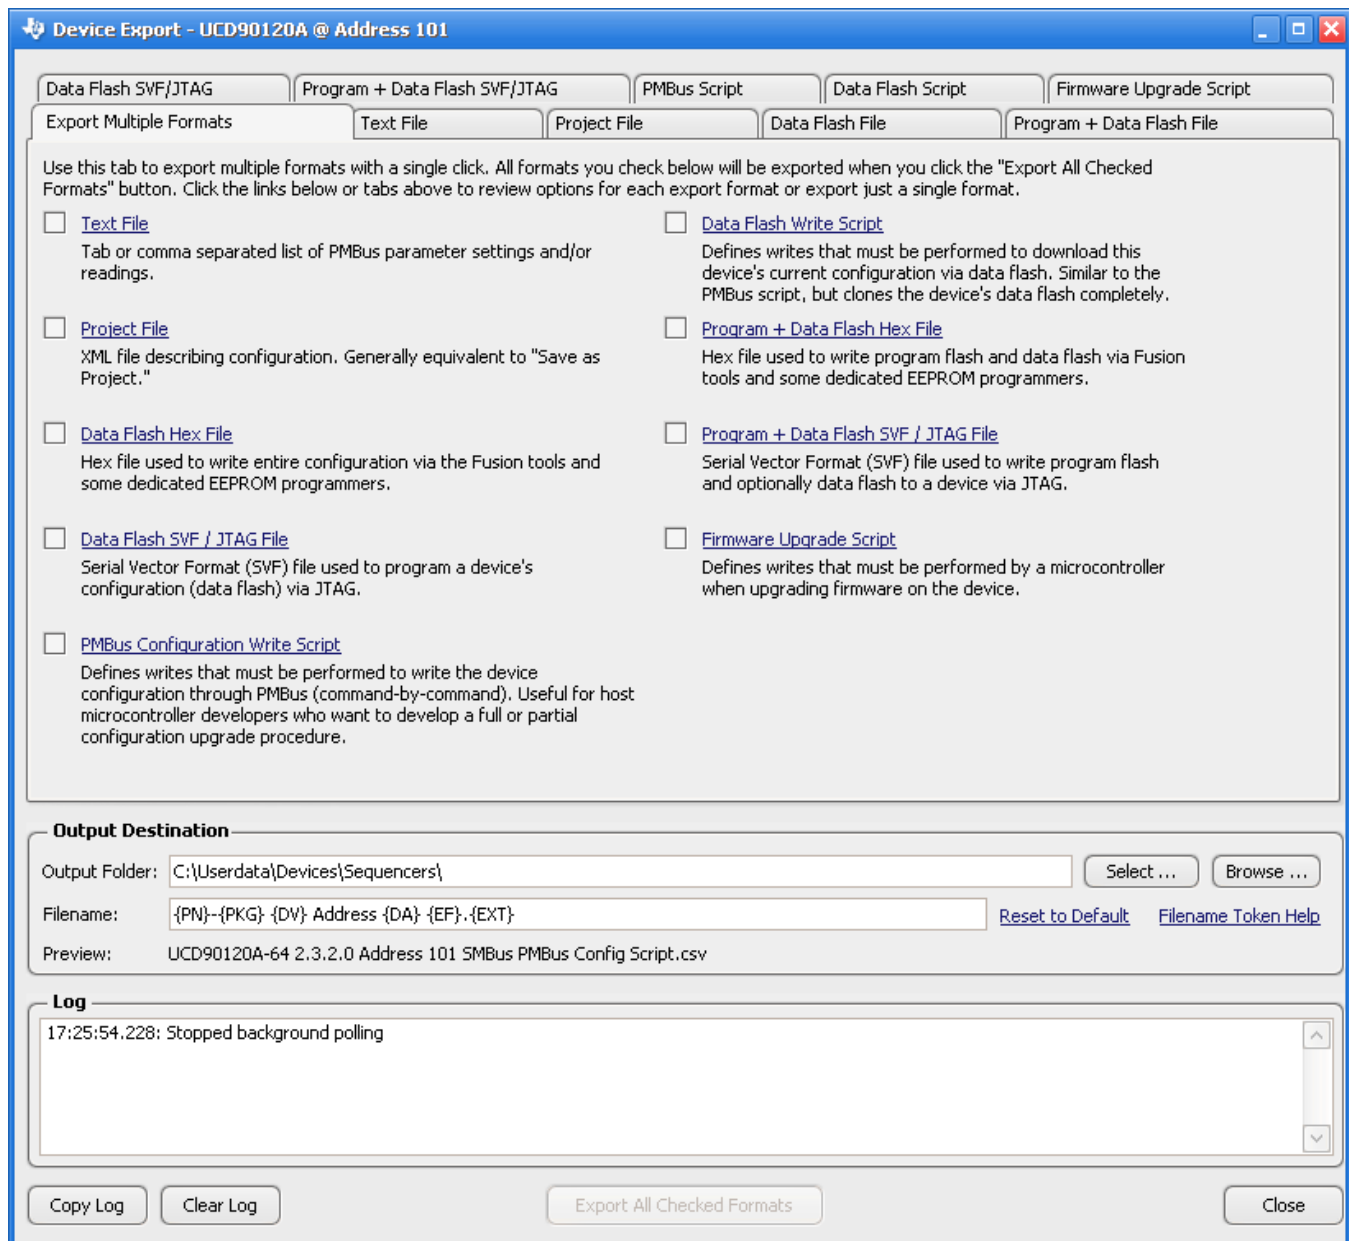

Figure 31. Fusion GUI Device Configuration Export Tool
- Another in-circuit programming option is for the *Fusion GUI* to create a data flash image from the configuration file (Figure 31). The configuration files can be exported in Intel Hex, Data Flash Script, Serial Vector Format (SVF) and S-record. The image file can be downloaded into the device using I²C or JTAG. The *Fusion GUI* tools can be used on-board if the *Fusion GUI* can gain ownership of the target board I²C bus. It is recommended to use Intel Hex file or data flash script file for production programming because the GPIOs are under controlled states.